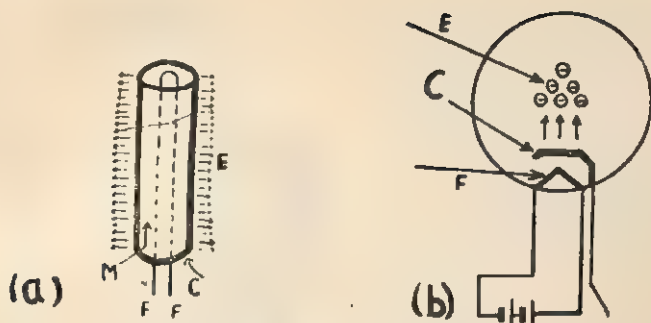

Fig. 13.4. (a) Indirectly heated cathode.
(2) **Vacuum Tubes.** These are usually glass tubes evacuated to very low pressure and contain a *metal wire* [*F* in Fig. 13.3 (a)] or *metall'ic hollow cylinder* [*C* in Fig. 13.4 (a)] which after getting heated, gives out electrons. These emitters of electrons are called **Cathode**. The usual materials for **cathode** are **tungsten**, thoriated **tungsten** (tungsten surface coated with thorium and carbon) or **oxide cathodes** (barium-strontium oxide). The vacuum tubes contain other electrodes also.
(b) **Indirectly heated cathode.** This type of cathode is a nickel hollow cylinder, the outer side of which is coated with suitable oxide. Inside the cylinder, along its axis, there is a filament, *F*, of tungsten in which the heating current is passed. The cylinder, *C*, is insulated electrically from the filament with the help of a mica sleeve *M* which allows only heat energy to pass. Thus in this type of cathode, the heating current passes in a separate wire and the cathode is heated **Indirectly** as shown in the Fig. 13.4 (b). The performance of an **indirectly heated cathode** is better and also its life is much longer than the life of **directly heated** type of cathode.